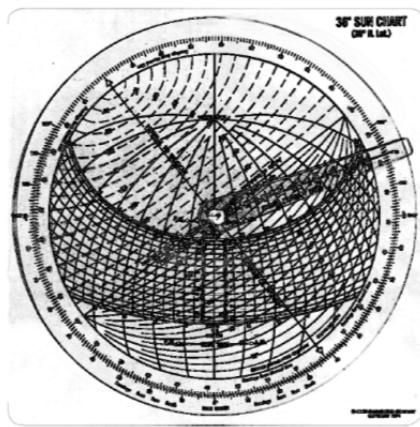

Figure 25: For more exact sizing, use the Pilkington Sun Angle Calculator
- **Pilkington Sun Angle Calculator.** A more thorough and accurate method uses this easy manual tool (Figure 25, available online for \$25 from the Society of Building Science Educators at www.sbsse.org/resources/sac). The instruction manual is also available for free download on the SBSE website. Similar software tools can now be found on the web.